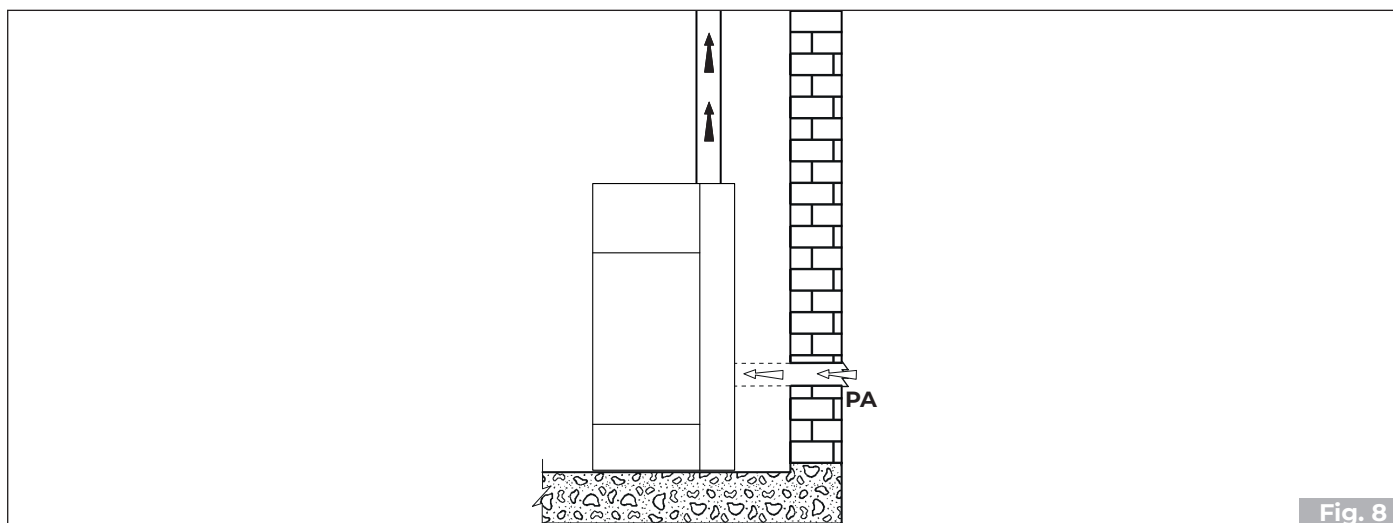

Fig. 8
- it can come from the installation room or suitable adjacent rooms (**Fig. 8**)
Create the air intake on the wall (**Fig. 8 - PA** = Air Intake), and leave the appliance to withdraw the room air, making sure to connect the section of corrugated pipe on the air inlet pipe, if supplied, fixing it with the strap and folding it slightly downwards to prevent any resonance effects.